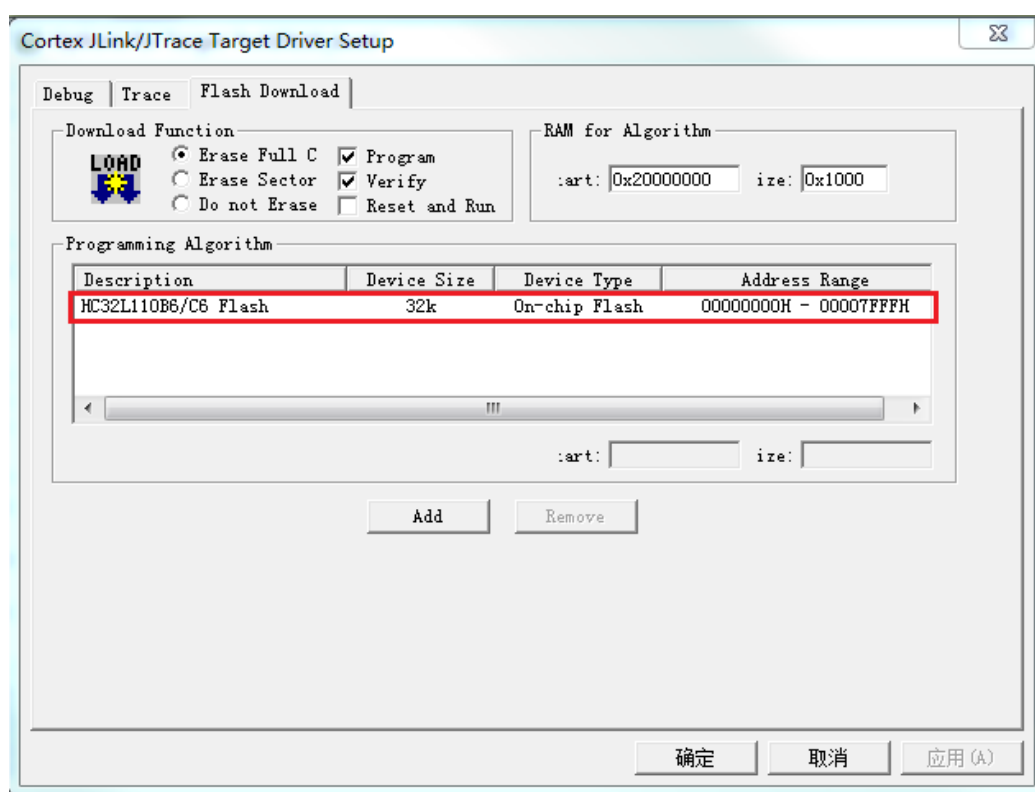

Figure 5 Add flash algorithm file
3) Open Project->Options for Target->Debug->Settings->Flash Download, as shown in Figure 5, check whether the flash algorithm file (.FLM format) has been added. If the red box position in Figure 5 is empty, you need to add the algorithm file of the corresponding chip. The steps for adding are as follows: (If the red box position is not empty and the algorithm file does not match, you need to delete the unmatched algorithm file first)
Step 2: Click the "add" button in Figure 5 to select the flash algorithm file corresponding to the chip.
Step 3: Click the "OK" button in Figure 5 to complete the addition of the flash algorithm file.